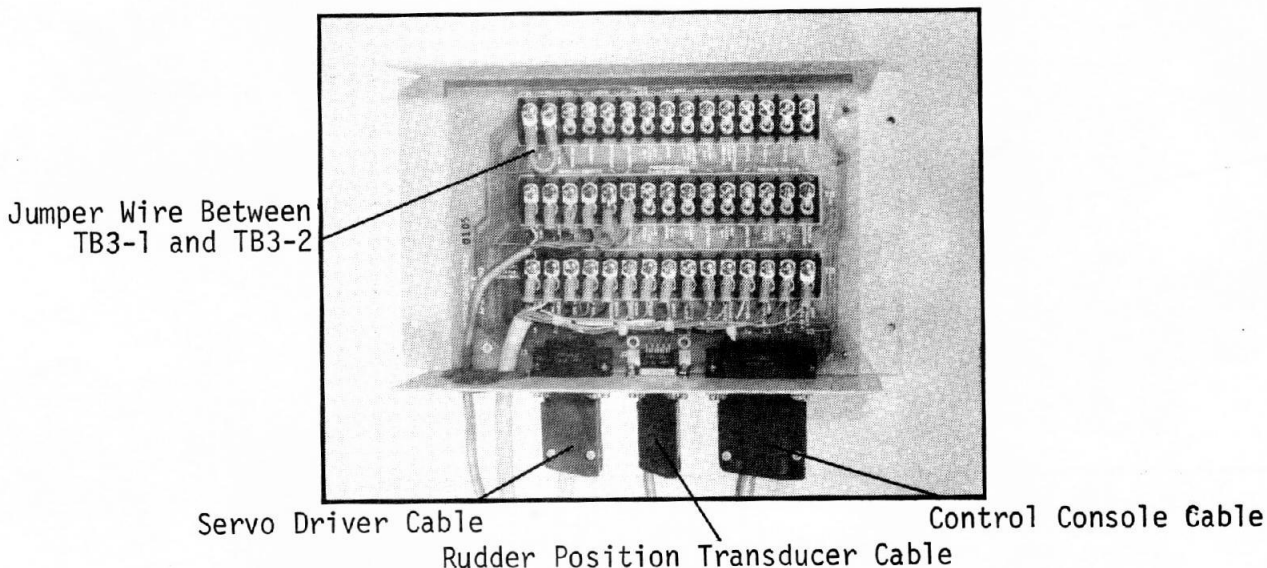

FIGURE 22. INTERCONNECTING MATRIX, WIRED
2. Attach the Control Console cable to the Matrix, as illustrated in Figure 22. Secure in place with small bolts (provided).
3. If the vessel has a 12VDC battery, remove the cover from the Matrix and make sure that a jumper wire is between TB3-1 and TB3-2 (Figure 22, page 21).
8. Attach the cable to the Interconnecting Matrix, as illustrated in Figure 22, page 21. Secure in place with small bolts provided.